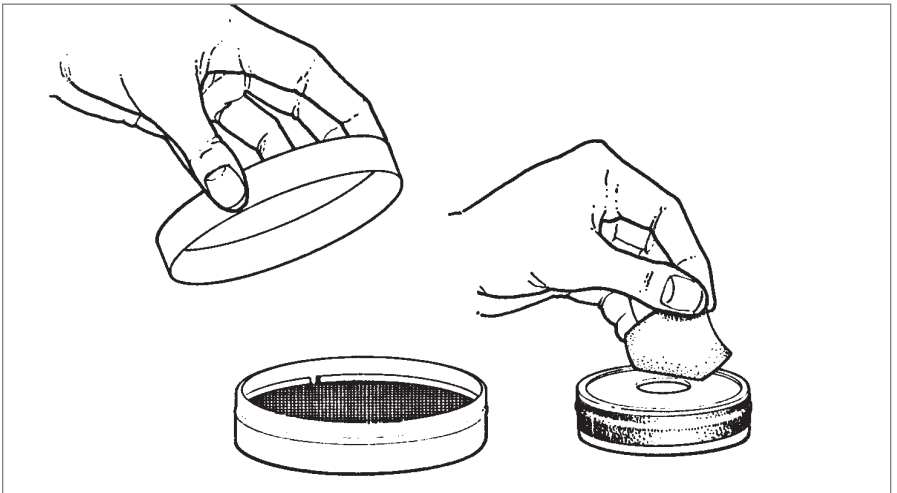

Figure 4: Two types of charcoal detectors
- **Charcoal Detectors** – These devices consist of a container filled with charcoal and covered with a screen and filter (*see* figure 4). They are exposed to the air in your home for a specified time period (usually 2 to 7 days), sealed and then sent to a laboratory for analysis.